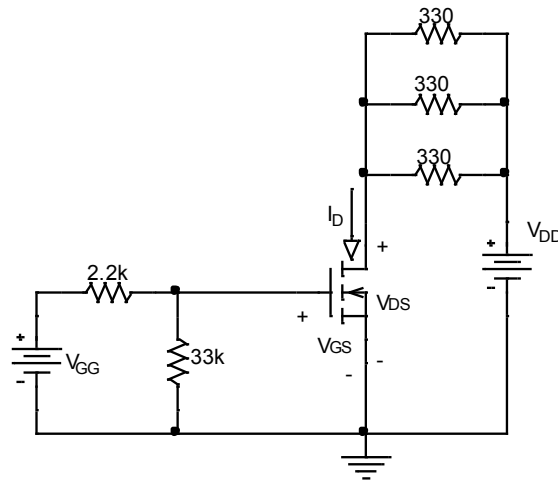

Figure 2: MOSFET circuit
- 2) Construct the circuit of figure 2. Use the HP multi-meter to measure the drain current,  $I_D$ , and the Fluke multi-meters to measure  $V_{DS}$  and  $V_{GS}$ . Use the +6 V power supply for  $V_{GG}$  and the +25 V supply for  $V_{DD}$ .